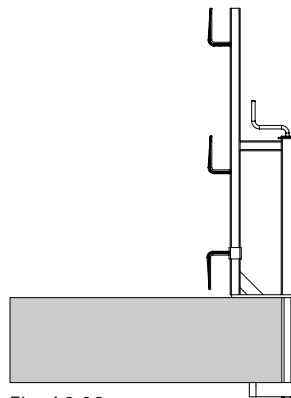

Fig. A2.08
- The clamping tube must lie flat on the slab edge. (Fig. A2.08)
- The clamp jaw (1.7) must lie completely flat. (Fig. A2.08)